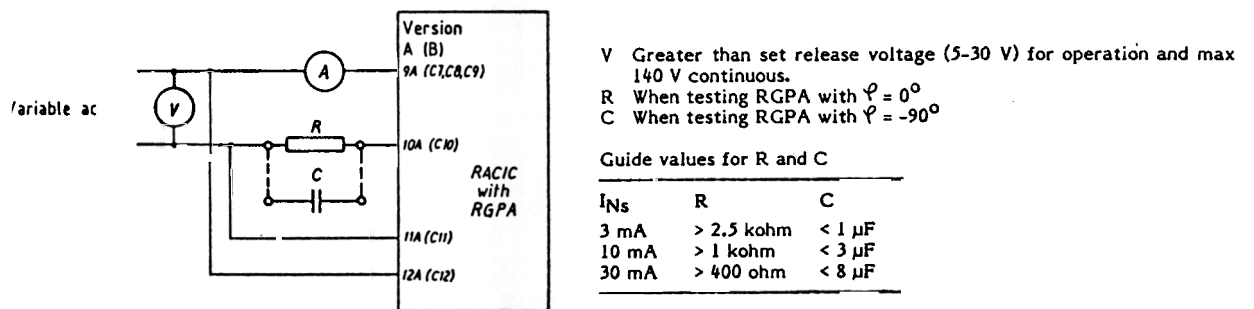

Fig. 23 Secondary test with SVERKER test set
- Wire up the testing set, instruments, timers etc. (For SVERKER test set, refer to RK 916-300E. For the directional earth-fault relay, refer also to figure 23).
Same as with non-directional relay but, when connecting the secondary supply, connect the voltage to the appropriate secondary voltage terminals. N.B. first open the circuits leading out to the voltage transformers. In principle, the connections are similar to those shown in Fig. 23 referring to the secondary test.
When the protective relay is connected to a cable current transformer, the former cannot be supplied with current from one or two phases and other methods must therefore be adopted. If the voltage circuit is supplied from an open delta, the following method can be used: To initiate the current conditions which prevail during an actual earth-fault, reconnections as shown in figure 23 must be made. A voltage, $U_T \approx 37$ V, will then be applied to the relay provided that the network is operating in the normal manner and that the ratio of the voltage transformer is